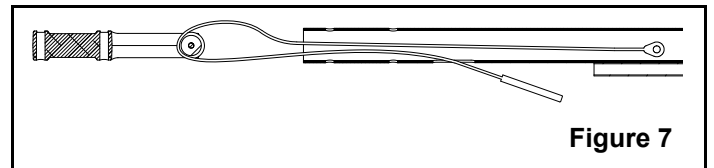

Figure 7
17. Route threaded portion of the cable over the pulley on clevis and back into the tube. Guide the threaded end through the slot in the handle as you insert clevis into the handle tube. Insert one of the handle bolts through the clevis mounting holes to hold it in place. See figure 7.